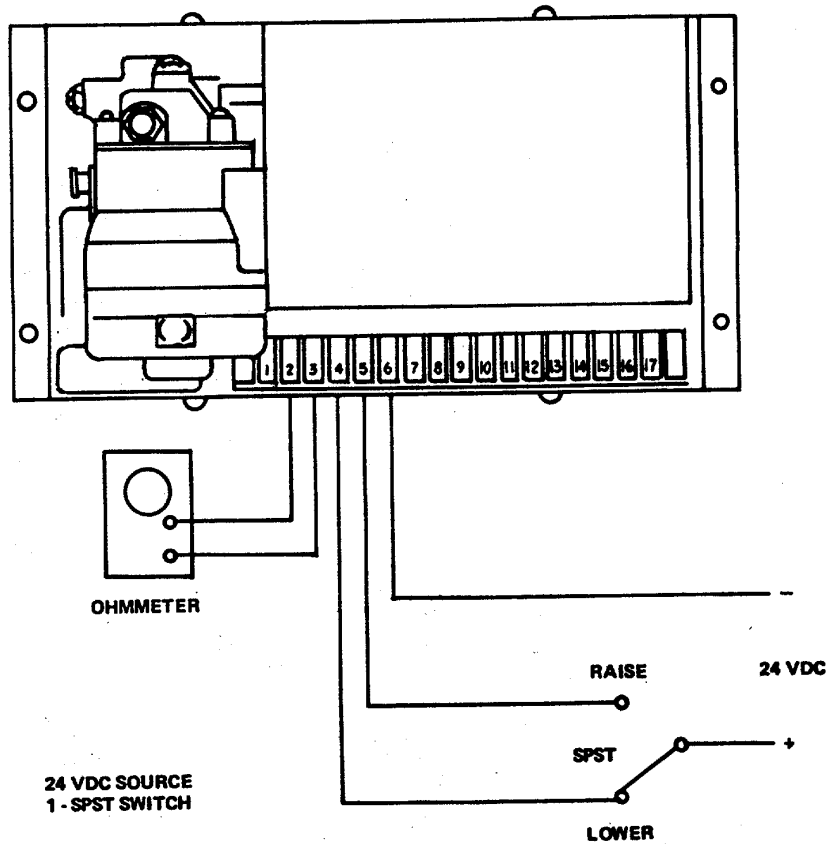

Figure 4-16. Motor-Operated Potentiometer, Test Setup
- (1) Test chassis isolation with an ohmmeter (set on high scale) by measuring between chassis and terminals 1 through 6 on the terminal board. Meter reading should be no continuity.
- (2) Referring to figure 4-16, provide a test setup as follows: